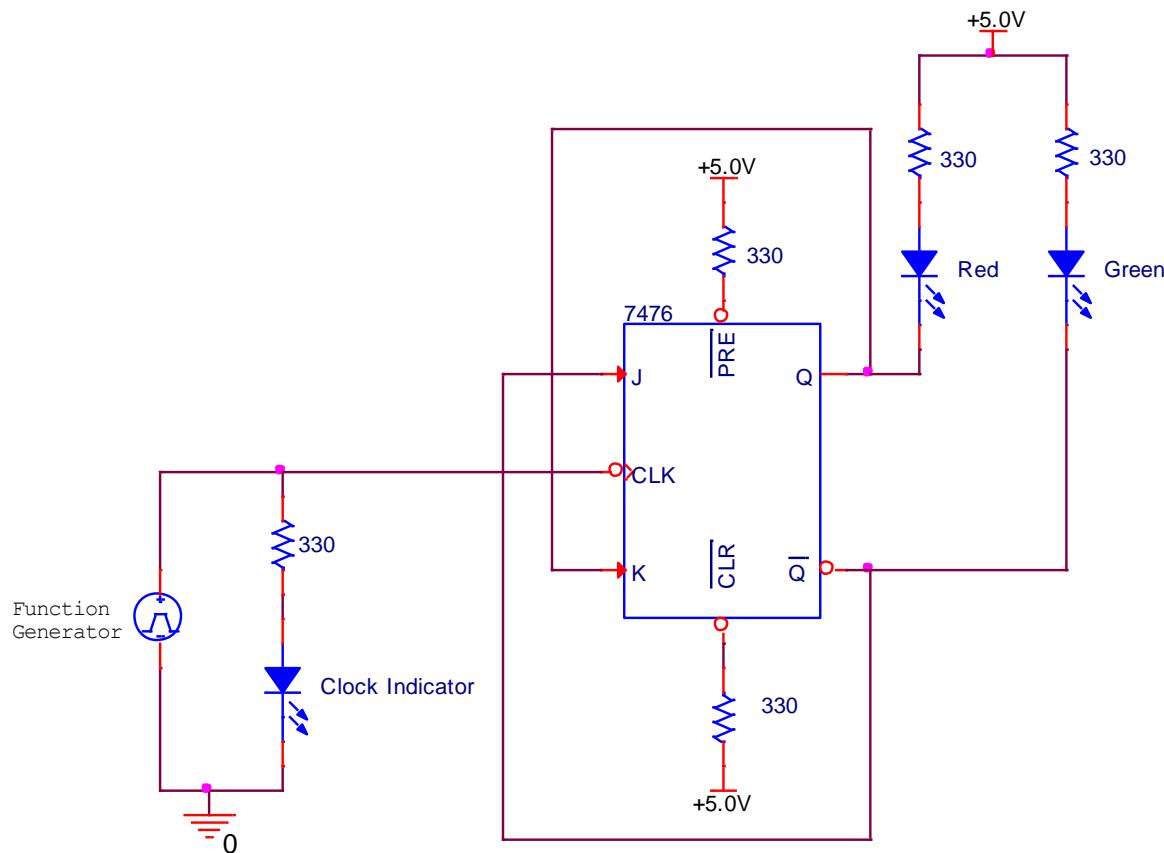

Figure 11.3
8. Construct the circuit shown in Figure 11.3. Connect the function generator to the clock input and set it to a 5V 5 Hz square wave with a DC offset of 2.5V.
5. Assume a student accidentally reversed the J and K inputs on the circuit in Figure 11.3. What effect would be observed?
6. Assume the red LED in Figure 11.3 is on steady and the green LED is off. The yellow LED is blinking. What are three possible troubles with the circuit?